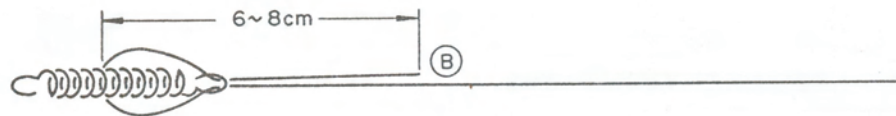

Fig. 1
2. Connect one end to the Tension Spring as shown in Figure 1.